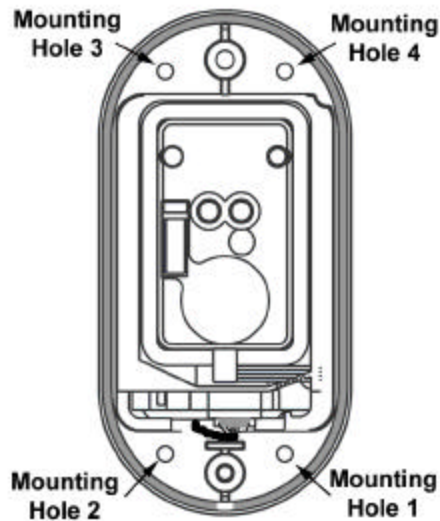

Figure 2-9 – Reader Mounting Holes
- 2.7.2 Position the Reader Base Plate so that it is flush against the outside of the door and that the lower right mounting hole on the Reader Base Plate lines up with the mark made from the template (Figure 2-9).